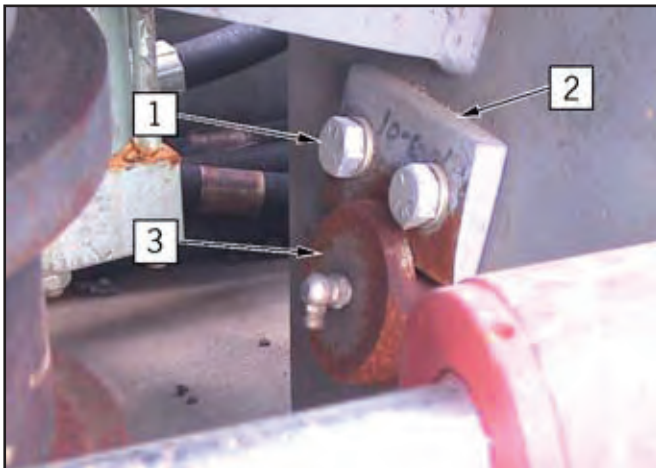

Fig. 6-39 Pipe Rack Roller
2. Remove pipe rack roller from lower pipe rack support, by removing the two capscrews that hold the pipe rack roller shaft retainer plate (fig. 6-39). Then remove the retainer plate.